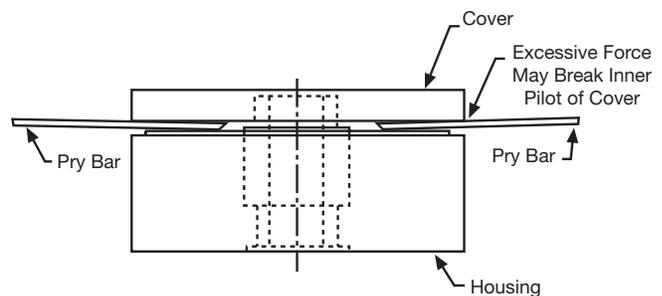

Figure 16
3. There are two locking screws (25) located on the face of the cover which lock down the reset spring screw (14) and the drive spring screw (21). Loosen these screws to relieve the pressure on the drive spring screw and reset spring screw.
4. Turn the reset spring screw (14) counterclockwise to relieve the compression on the reset spring (19).
5. Remove the sealing wax from the drive spring screw (21) and turn the screw counterclockwise to relieve the compression on the drive spring (18).
6. Remove the cover screws (27).
7. Pry off the cover (8). Use care not to break the inner pilot of the cover. (See Figure 16)
8. Remove the reset screw (14) and take out the reset spring (19), and the ball thrust (20) through the hole stamped 9.
10. Remove the drive pawl (10) and the drive spring (18). This will require a little more effort because of the slight pressure on the drive spring.
11. Remove the housing (1) from the mounting surface and press out the rotor (12).
12. If clutch is manual reset, remove the reset screw (24) by turning clockwise into the housing.
13. Inspect hardened bushings (3) in housing (1) and cover (8) for excessive wear.